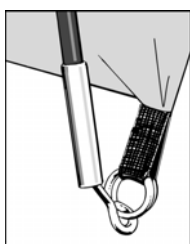

Figure 1.
- Locate one end of each of the poles onto pin system at groundsheet corners (see figure 1).
1. Locate one end of each pole onto the corresponding metal pin. The metal pin inserts into the hollow metal ferrule on the end of each pole. **(See Figure 1)**. Push the pole into a curve from the opposite side, one at a time, and locate all pole ends onto the metal pins.